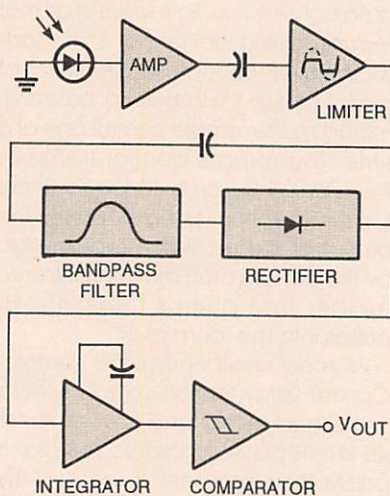

Fig. 2. The module stages look something like this. Together they process infrared light to extract any pertinent waveform and then demodulate it.
Fig. 2. These cross-sectional views of N- (A) and P-channel (B) JFET structures show that a JFET is formed by embedding either N- or P-doped semiconductor material (the channel) in an N- or P-type substrate (the gate). The schematic symbols for N- and P-channel JFET's are shown in C and D, respectively.